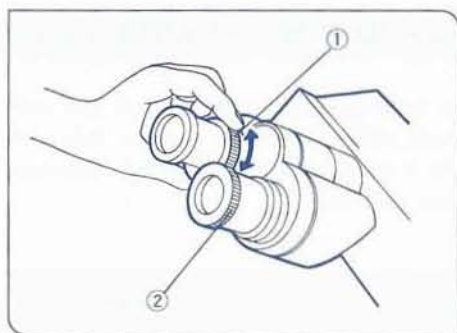

Fig. 33
#### 2 Diopter Adjustment (Figs. 33,34)
2. Looking through the left eyepiece with your left eye, turn the diopter adjustment ring ① to where the specimen is in focus. (Fig. 33)
1. Looking through the right eyepiece with your right eye, turn the knurled ring on top of the eyepiece until you see two distinct sets of reticles in the field of view. (Figs. 33,34)
3. Looking through the left eyepiece with your left eye, turn the diopter adjustment ring ① using a finder eyepiece